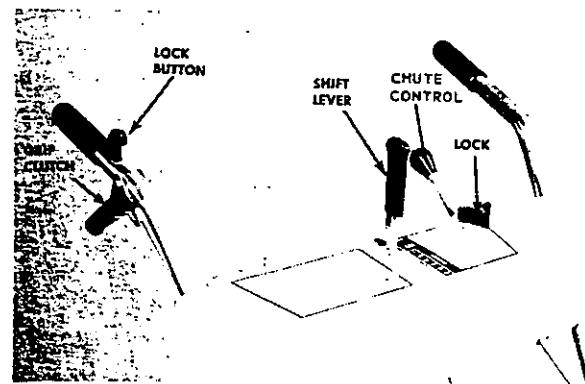

FIGURE 3.
**Grip Clutch.** The grip clutch engages and disengages the drive wheels. To engage the clutch, squeeze the handle and depress the button to lock it. Squeezing the handle again will release it. (Shown in the disengaged position.) (See figure 3.)
**Shift Lever.** The shift lever determines the direction and speed forward of the drive wheels. Always release the grip clutch when shifting gears. (See figure 3.)
**Chute Controls.** Release the lock and turn the crank to rotate the chute. Loosen the wing nut to adjust the deflector. (See figure 3.)